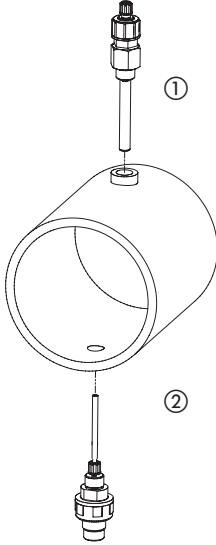

Fig. 7.3: Injection point mounting positions
The injection points are there to intervene on the metered mediums in a main current and also fulfill the function of reversal at the same time. The injection piece is mostly mounted from the top in the main line ① (see fig. 7.3). It is recommended to mount it from the bottom if there are media which are subject to granulation, so that air locks cannot be sealed inside ②.